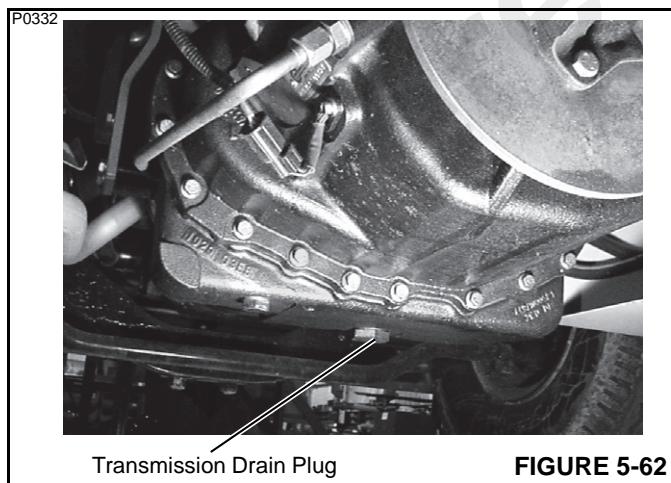

FIGURE 5-62
- Place the container under the drain plug and remove the drain plug (Figure 5-62). Drain any oil left in the transmission into the container. Install the drain plug.